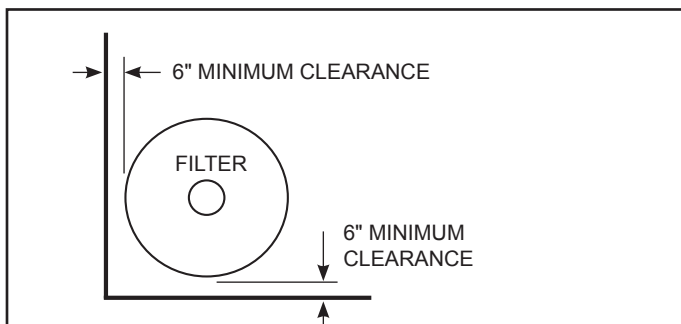

Figure 2. Filter Location
3. Install electrical controls at least five (5) feet from the filter. This will allow enough room to stand away from the filter during start-up.
4. Allow sufficient clearance around the filter to permit a visual inspection of the clamp ring. See Figure 2.